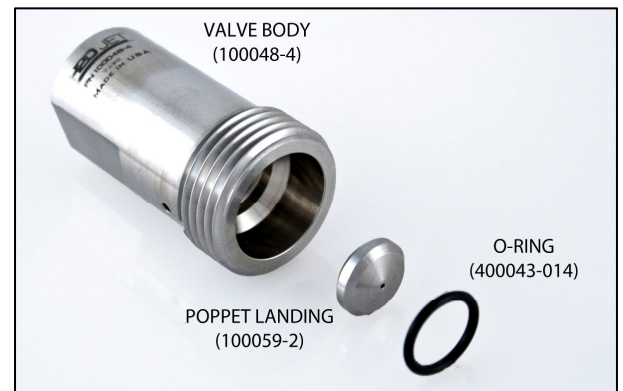

Figure 8
17. Apply a thin coat of Blue Goop (400001-1) to both sides of the Poppet Landing and insert in the outlet end of the Valve Body. Push the O-Ring (400043-014) into the groove to hold the Poppet Landing in place. **See Figure 8.**